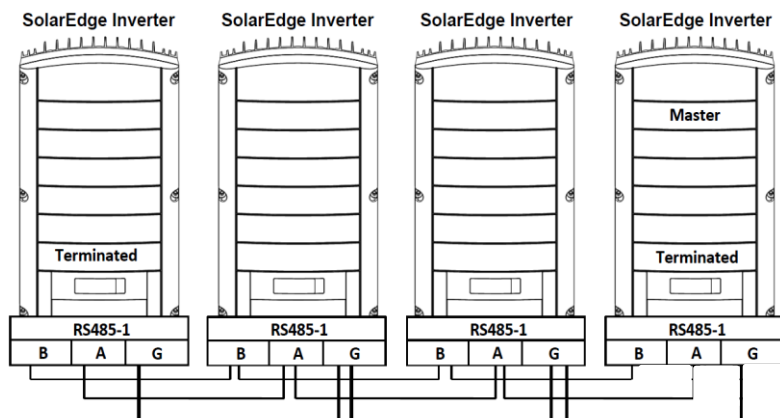

Figure 27: Example of RS485 Bus Connection
- Connect the other inverters in the chain. You can use any color wire to connect between each connector **A** on one inverter to connector **A** on the other inverter, as long as you use the same color wire for all **A** connectors. The same goes for connecting between **G** connectors and for connecting between **B** connectors. Figure 27 conceptually depicts this connection schema.